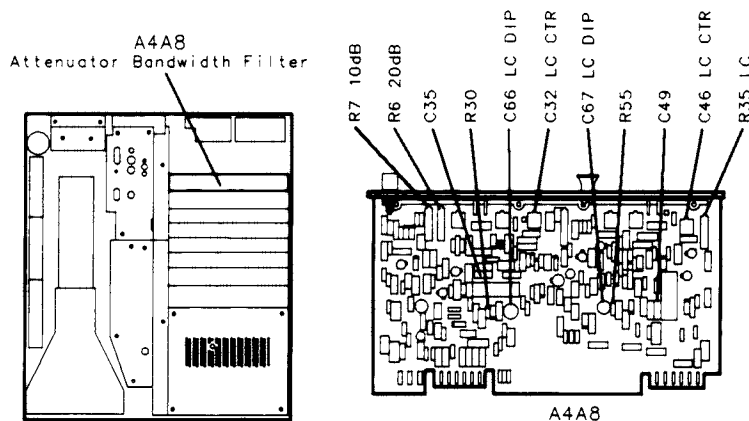

Figure 3-43.
29. Adjust A4A8C32 LC CTR and A4A8C46 LC CTR for maximum MARKER level as indicated by CRT annotation. See Figure 3-43 for location of adjustments. If unable to adjust A4A8C32 and A4A8C46 LC CTR adjustments for satisfactory signal amplitude, increase or decrease value of A4A8C35 and A4A8C49. Refer to Table 3-3 for range of values.
32. Adjust A4A8R35 LC to align markers on display. MARKER Δ level should indicate 1.00 X. See Figure 3-43 for location of adjustment.
47. Adjust A4A8R7 A10dB to align markers on display. MARKER **Δ** level should indicate 0.00 dB. See Figure 3-43 for location of adjustment.
49. Adjust A4A8R6 A20dB to align markers on display. MARKER **Δ** level should indicate 0.00 dB. See Figure 3-43 for location of adjustment.
65. Adjust A4A8C66 LC DIP for minimum amplitude of signal peak. See Figure 3-43 for location of adjustment. Key in MARKER **(PEAK SEARCH)** MARKER **(Δ)**, and then press MARKER **(PEAK SEARCH)** and re-adjust LC DIP to offset the signal peak approximately -17 kHz (to the left). If unable to achieve a “dip” in signal amplitude, increase or decrease value of A4A8R30. Refer to Table 3-3 for range of values.
67. Adjust A4A8C67 LC DIP for minimum amplitude of signal peak. See Figure 3-43 for location of adjustment. Key in MARKER **(PEAK SEARCH)** MARKER **(Δ)**, and then press MARKER **(PEAK SEARCH)** and re-adjust LC DIP again to offset the signal peak approximately -17 kHz (to the left). If unable to achieve a “dip” in signal amplitude, increase or decrease value of A4A8R55. Refer to Table 3-3 for range of values.